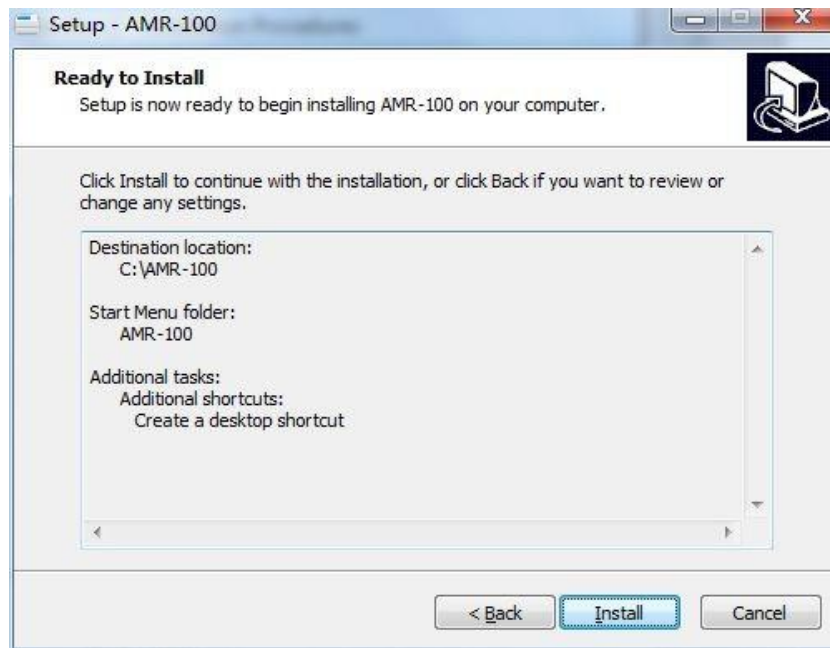

Fig 4
4. Then "Next" to installation interface as Fig 4 and 5.